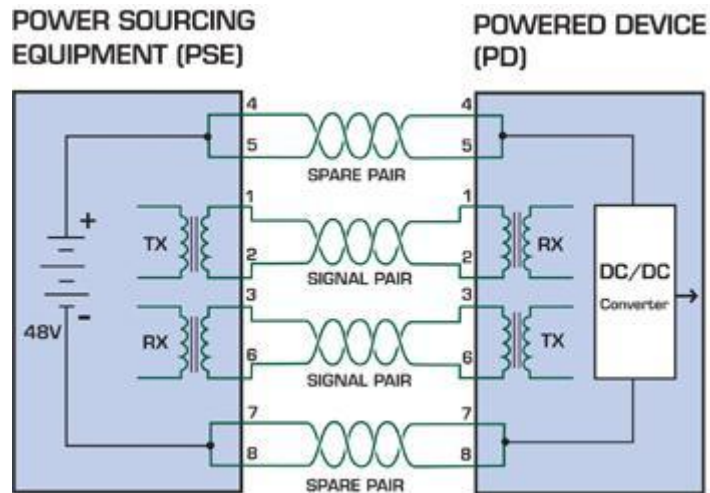

Figure 1 – Power Through the Cable on the Spare Pairs
- **The spare pairs are used.** Figure 1 shows the pair on pins 4 and 5 connected together and forming the positive supply, and the pair on pins 7 and 8 connected and forming the negative supply. (the spec allows either polarity to be used).